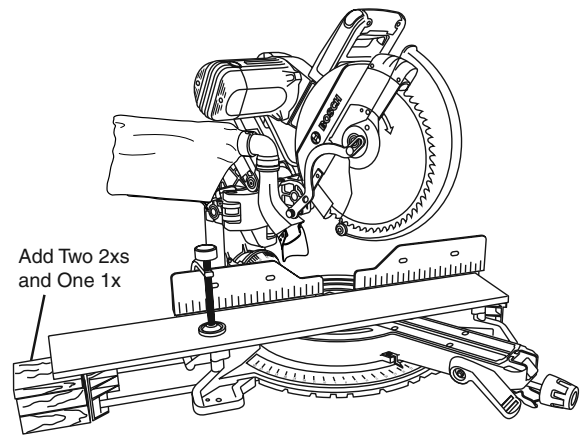

Figure 36. Block Support
**Blocks** – Long pieces need extra support. The base height (3-3/4") is designed to match the standard lumber of two 2xs and one 1x. Boards of these thicknesses can be used to create auxiliary support extensions for long workpieces (see Figure 36).